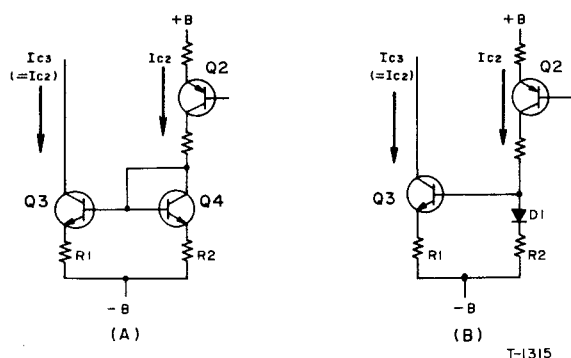

Fig. 4 Current Mirror Circuit
The circuit comprising Q3, Q4 and R1, R2 connected to the load of the transistor Q2 as shown in Fig. 4(A) acts as a current mirror circuit. As Q4 is connected with the diode with shortcircuited collector and base, it can be replaced by the diode D1 as shown in Fig. 4(B).